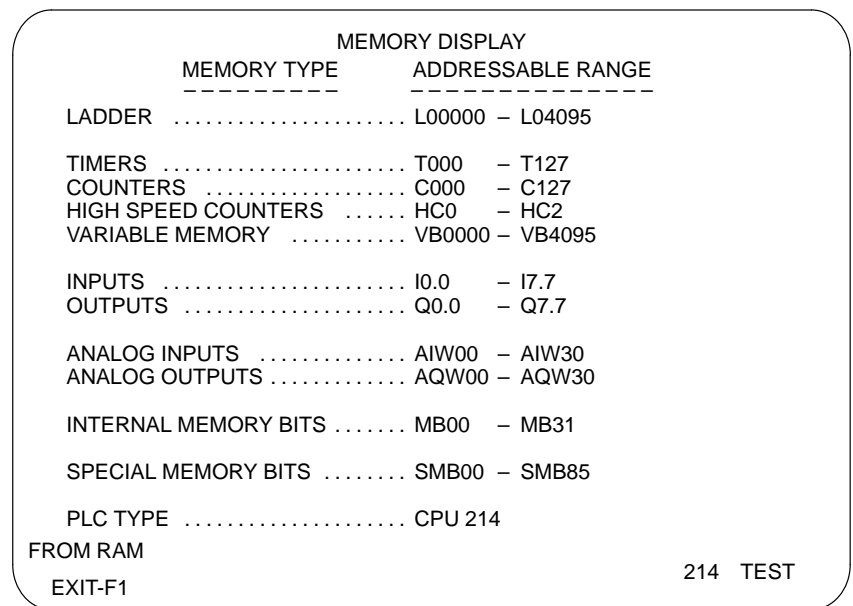

Figure 4-22 Memory Display Screen (Offline)
3. In offline mode, your memory configuration display varies according to CPU model. The line at the bottom of the memory display, **PLC TYPE**, shows the CPU model number. The display shown in Figure 4-22 is for a CPU 214.